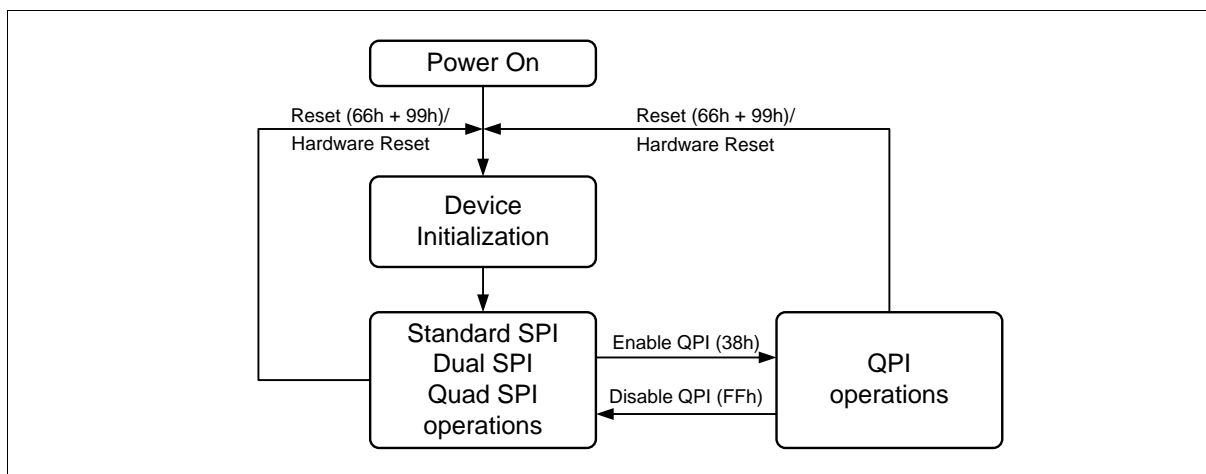

Figure 5 FM25W128 Serial Flash Memory Operation Diagram
The FM25W128 supports Quad Peripheral Interface (QPI) operations only when the device is switched from Standard/Dual/Quad SPI mode to QPI mode using the “Enable QPI (38h)” instruction. The typical SPI protocol requires that the byte-long instruction code being shifted into the device only via DI pin in eight serial clocks. The QPI mode utilizes all four DQ pins to input the instruction code, thus only two serial clocks are required. This can significantly reduce the SPI instruction overhead and improve system performance in an XIP environment. Standard/Dual/Quad SPI mode and QPI mode are exclusive. Only one mode can be active at any given time. “Enable QPI (38h)” and “Disable QPI (FFh)” instructions are used to switch between these two modes. Upon power-up or after a software reset using “Reset (99h)” instruction or hardware reset, the default state of the device is Standard/Dual/Quad SPI mode. To enable QPI mode, the non-volatile Quad Enable bit (QE) in Status Register-2 is required to be set. When using QPI instructions, the DI and DO pins become bidirectional DQ₀ and DQ₁, and the WP# and HOLD# pins become DQ₂ and DQ₃ respectively. See Figure 5 for the device operation modes.